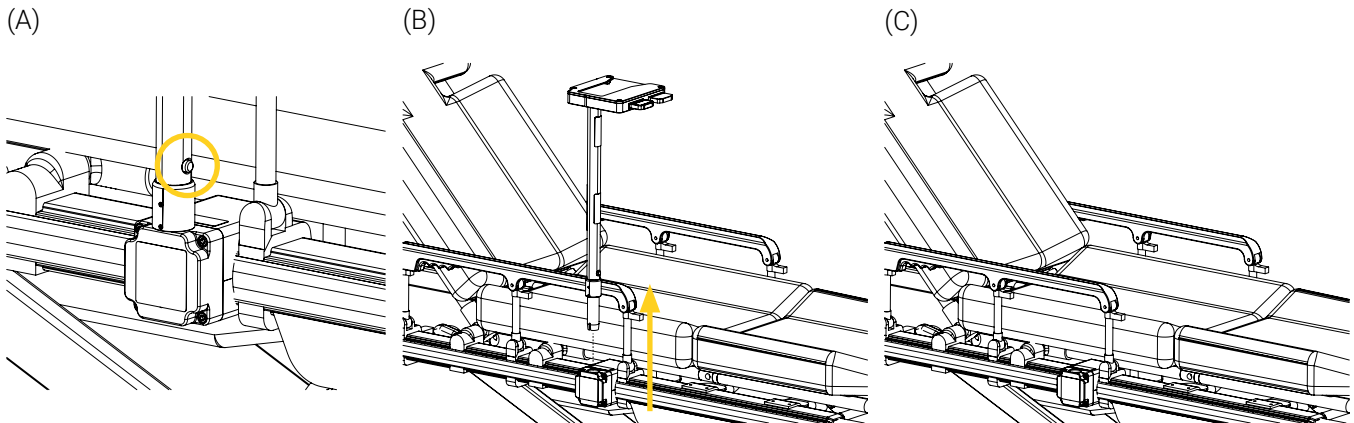

Figure 16: Removing the XTPA Auxiliary Pole from the AP Socket
1. Press and hold the quick release button located at the bottom of the XTPA Auxiliary Pole, then pull the mounting system vertically out of the AP Socket (Figure 16).